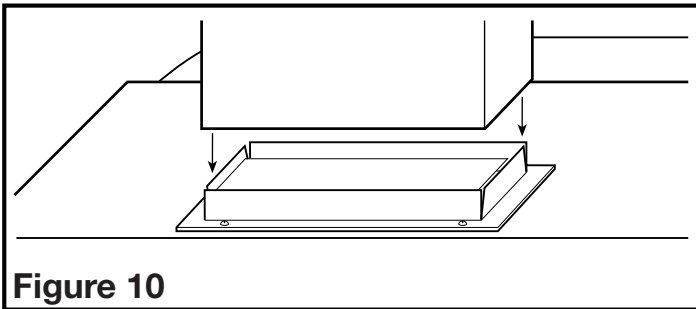

Figure 10
1. Connect the ducting to the hood's duct collar and damper. Secure in place using tape to seal all joints (Figure 10).